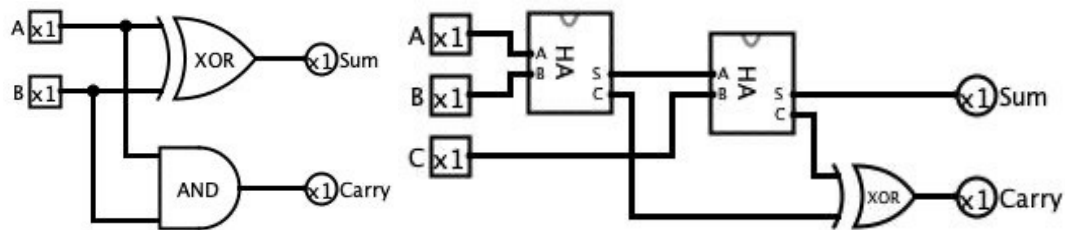

Figure 6-1. Digital Circuits of Half Adder and Full Adder
An hierarchical approach is used to design the 4-bit ALU, starting from gates to construct Half Adder (HA), and then using two HAs to design Full Adder (FA), as shown in Figure 6-1, and then arithmetic unit (for addition and subtraction operations) and lastly logical component (of AND and OR gate operations) is integrated to design 1-bit ALU, as shown in Figure 6-2. By using 4 1-bit ALUs, 4-bit ALU is designed, as shown in Figure 6-3.